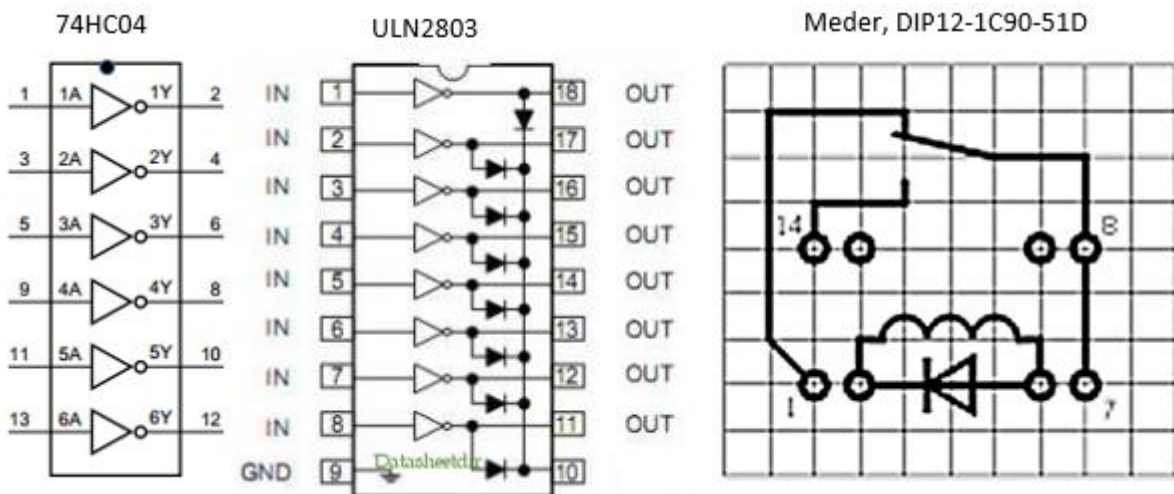

Fig. 20, Applied Relays.
5.5 Testing the band switching relays, fig.20.